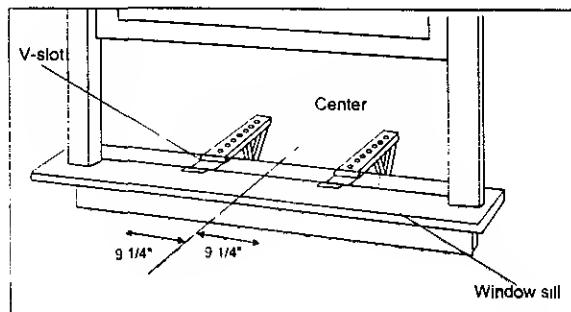
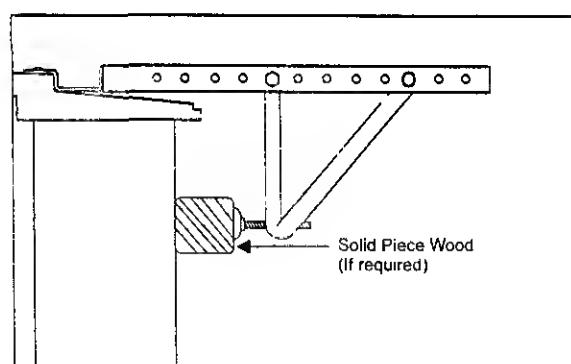

Fig. 14
Fig. 15
Two bolts per bracket. Secure with the (2) **1/4"** **lock washers** and (2) **1/4"** **nuts**. **DO NOT** immediately tighten these bolts as it may be necessary to adjust the depth of the **bracket assembly**, depending on the depth of your window sill. See (Fig. 14) Install the two **leveling screws** into the 90° support brackets. Test the bracket assembly in the window before cabinet installation. If the leveling screws are distanced too far away from the wall to provide stability, it may be necessary for you to shim this area with a solid piece of wood. See (Fig. 15)
B. Measure the inside window sill width and find the center as shown in (Fig. 14) Measure 9 1/4" from the center line on each side and mark these points Align the **V-slot** in each bracket on these marks and mount the brackets to the sill using **3/4" screws** provided Brackets should be perpendicular to the inside window sill See (Fig. 14)
See (Fig. 15).